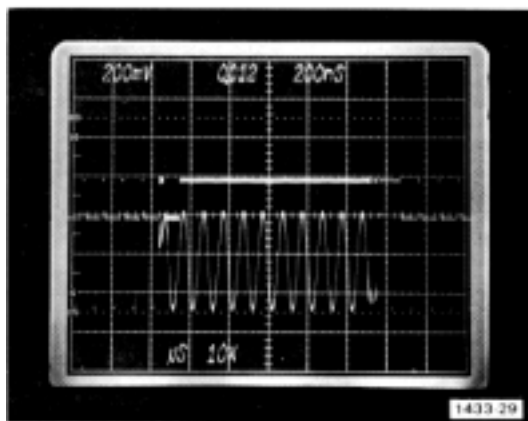

Fig. 5-10. Typical pseudo gate display when B Arm is gated.
j. Check for a pseudo gate pulse at every positive going slope of the sine wave, except during the intensified portion. See Fig. 5-10 for a typical display.